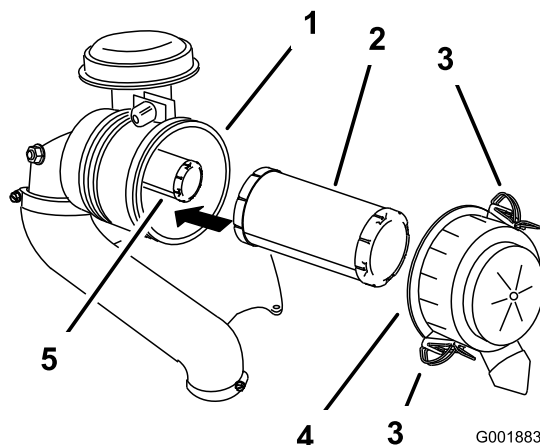

Figure 30
3. Release the latches on the air cleaner and pull the air-cleaner cover off the air-cleaner body (Figure 30).
5. Gently slide the primary filter out of the air-cleaner body (Figure 30).
2. If you are replacing the safety filter, carefully slide it into the filter body (Figure 30).
3. Carefully slide the primary filter over the safety filter (Figure 30).
4. Install the air-cleaner cover with the side indicated as **up** facing upward and secure the latches (Figure 30).